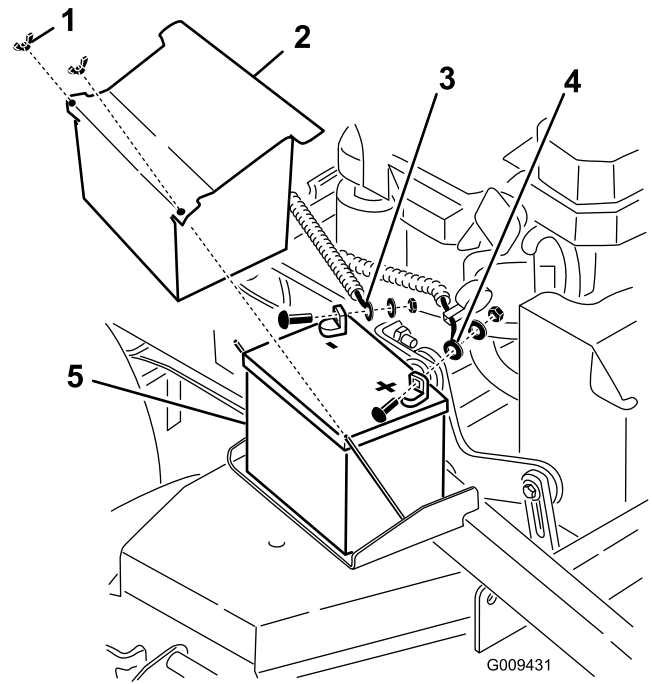

Figure 49
3. Lift the black rubber cover on the negative cable. Disconnect the negative battery cable from the negative (-) battery terminal (Figure 49).
4. Slide the red terminal boot off the positive (red) battery terminal. Then remove the positive (red) battery cable (Figure 49).
5. Remove the battery hold down plate (Figure 49) and remove the battery.
1. Place the battery onto the machine (Figure 49).
3. First, install the positive (red) battery cable to positive (+) battery terminal with a nut, washer and bolt (Figure 49). Slide the rubber cover over the post.
4. Then install the negative battery cable and ground wire to the negative (-) battery terminal with a nut, washer and bolt (Figure 49). Slide the rubber cover over the post.